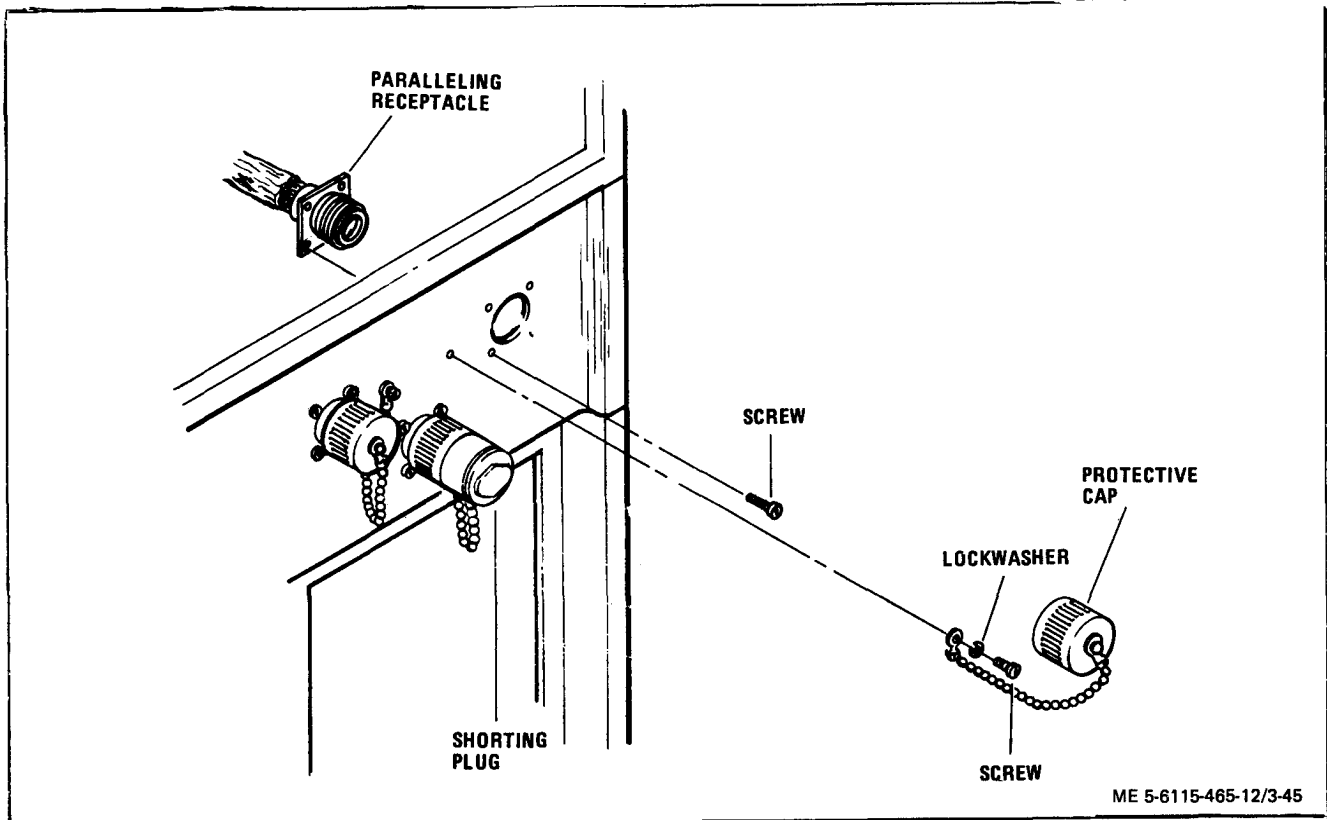

Figure 3-45. Paralleling Receptacles, Removing and Installation
(1) Remove screws and lockwashers (figure 3-45).
(2) Unscrew protective caps and shorting plug from paralleling receptacles.
(3) Remove screws and pull paralleling receptacles away from generator set.
(4) Tag and unsolder electrical leads to receptacles.